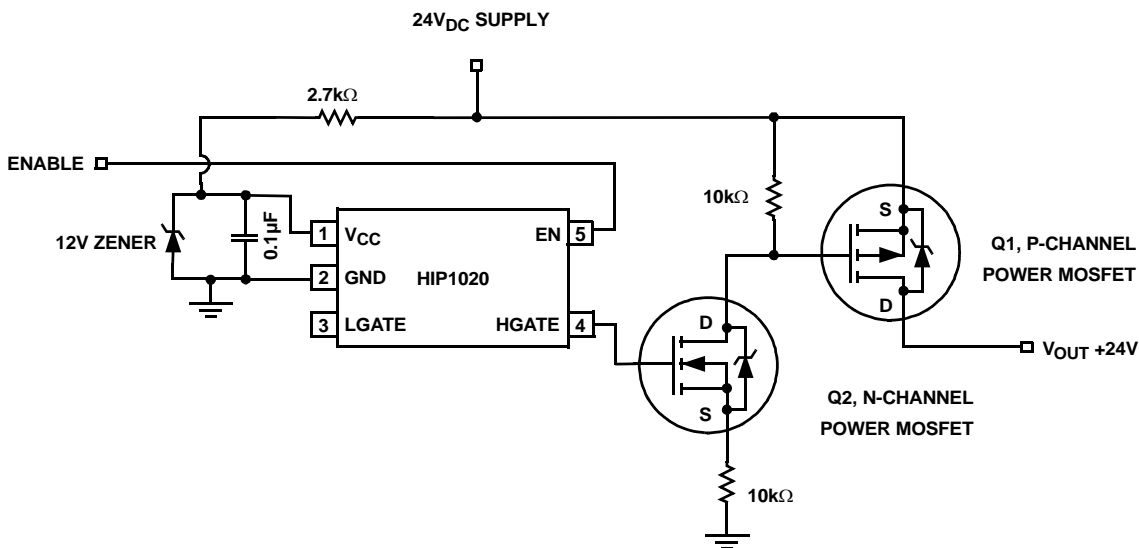

FIGURE 3. CONTROLLING THE +24V SUPPLY
**Designing the +24V Controller (Figure 3)**
Figure 3 circuit functions as follows. The N-MOSFET and two resistors form an inverting circuit and a 2:1 voltage divider. When HGATE is low, the N-MOSFET will turn off. The resistor between the P-MOSFET's Source (24VDC supply) and Gate will pull the Gate to the Source, turning off the P-MOSFET. HGATE high will turn on the N-MOSFET and the resistor divider will pull the P-MOSFET Gate towards ground, in this case 12V, and forces the P-MOSFET into heavy conduction. Keep in mind we cannot exceed the maximum P-MOSFET and N-MOSFET terminal voltages, especially  $V_{GS}$  (typically 20V for most standard power MOSFETs)